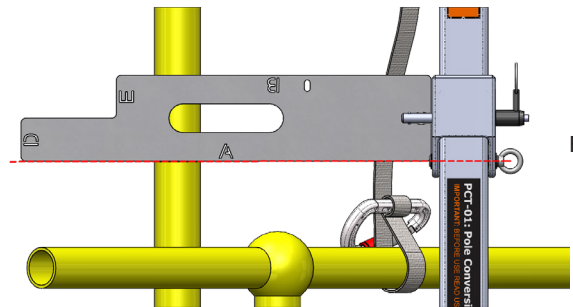

Fig 9
- ☐ Using the marking tool, check that the PCT centre hinge point is in line with the cut mark (top cut mark if two were marked in step 1). (Fig 9)